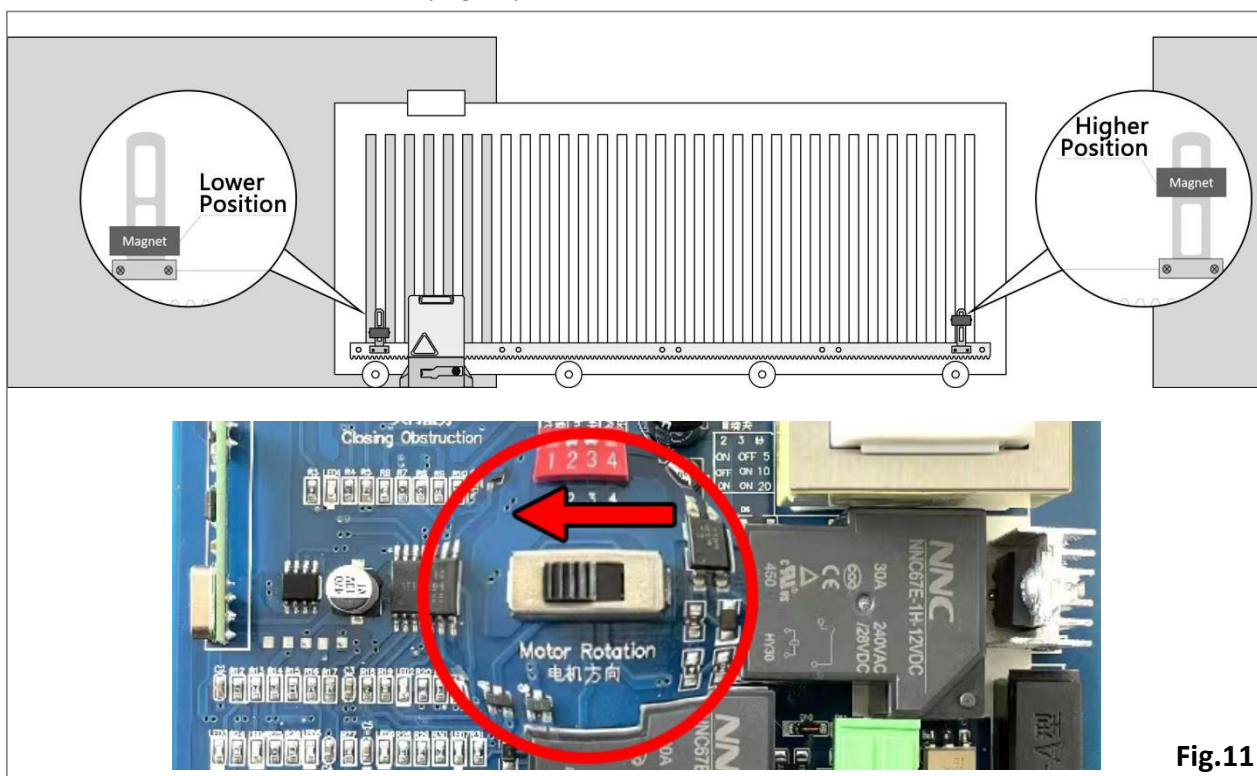

Fig.11
- If the motor is installed on the LEFT side to open the gate (viewed from inside the gate), place the left magnet lower and the right magnet higher. **Make sure to turn the "Motor Rotation" on the PCBA to the LEFT.** (Fig.11)
7. Remote Control Operation (Fig.11)